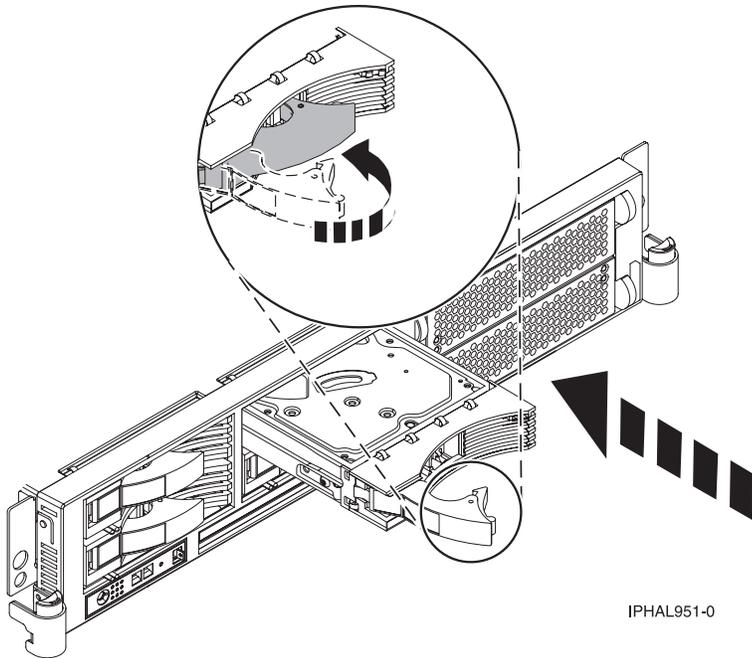
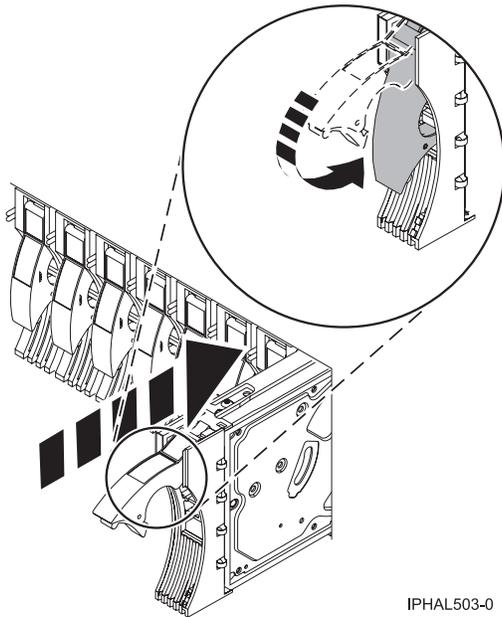

Figure 21. Installing a disk drive in model 51x or 710
Figure 22. Installing a disk drive in a model 285, 52x, 55x, 9116-561, 570, 720, or 7311-D20
18. Slide the disk drive into the system unit until it stops, as shown in Figure 21 on page 22 or Figure 22 on page 22.